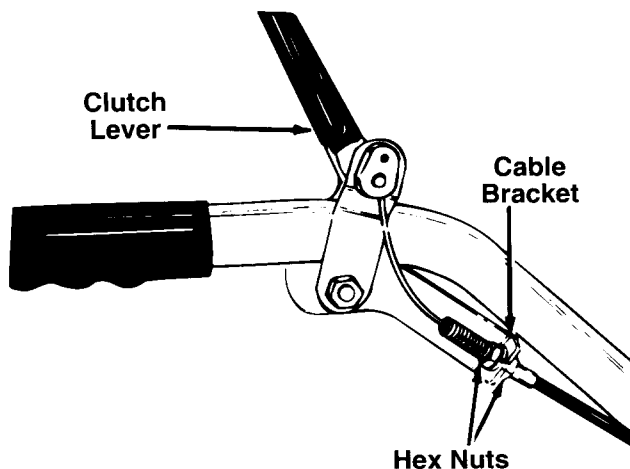

FIGURE 14.
**If the belt turns with the unit in neutral**, adjust by moving the hex nut below the cable bracket **down** a few turns. See figure 14. Tighten the upper hex nut against the bracket.